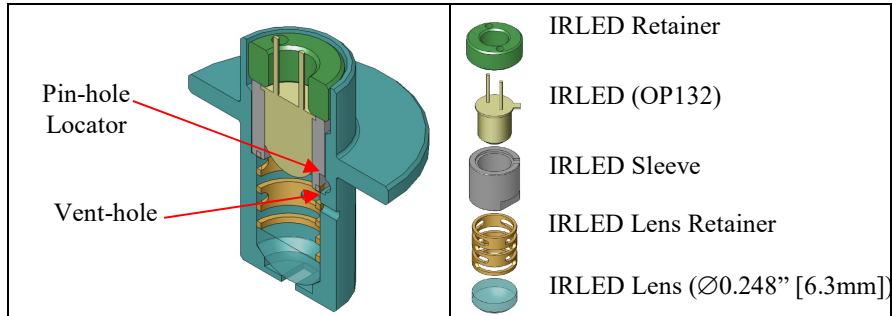

Figure 3. Section view through the assembled IRLED carrier and part explosion
3. The vent hole on the carrier wall is clear and is not obscured by the lens retainer spring. If so, then rotate the lens retainer until the vent hole appears clear (see figure 3).
Once in place, push the setting pin through the hole in the carrier wall, and leave in place. Insert the IRLED into the bore of the sleeve, and position the tab of the IRLED package to be coincident with the recess on the sleeve. **Note 1*. Insert the pins of the retainer screw tool into the drilled holes in the retainer and screw the retainer into the carrier until the end surface of the retainer is flush with the surface of the carrier. This will clamp the IRLED and sleeve in place, but take care to not over tighten. Finally, remove the setting pin from the carrier wall and the retainer screw tool. See figure 3 for a section through the completed assembly.